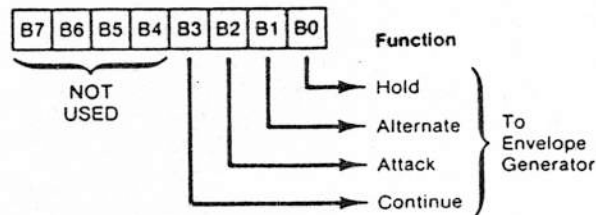

Figure 3-11. ENVELOPE SHAPE/CYCLE CONTROL REGISTER (R15)
3.3.7.7 Envelope Shape/Cycle Control (Register R15). -- The Envelope Generator further counts down the envelope frequency by 16, producing a 16-state per cycle envelope pattern as defined by its 4-bit counter output, E3 E2 E1 E0. The particular shape and cycle pattern of any desired envelope is accomplished by controlling the count pattern (count up/count down) of the 4-bit counter and by defining a single-cycle or repeat-cycle pattern. This envelope shape/cycle control is contained in the lower 4 bits (B3--B0) of register R15. Each of these 4 bits controls a function in the envelope generator, as by Figure 3-11.